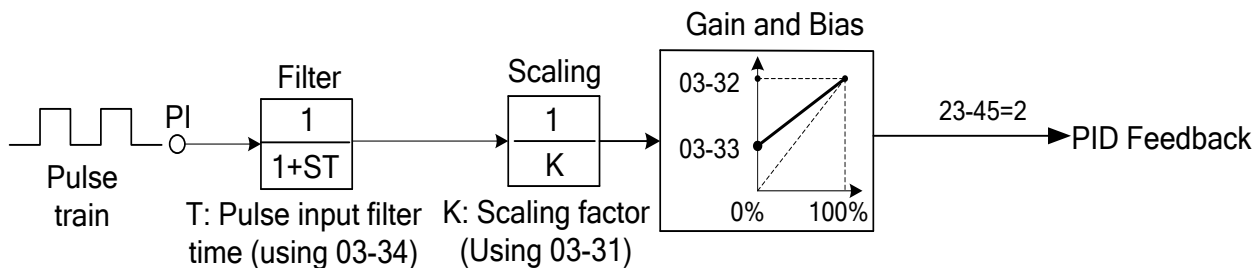

Figure 4.3.24 Pulse input adjustment
* Refer to Fig.4.3.24 for the pulse input specification.